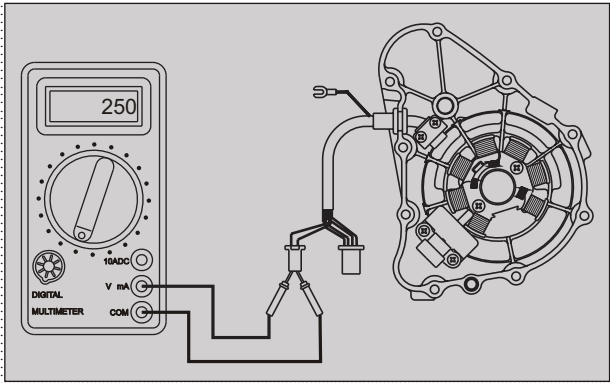

Fig. 5.9
- Connect multimeter '+ve' lead to the brown wire (Br) from pulser coil and '-ve' lead to white wire (W) from pulser coil. (Fig. 5.9) Measure the resistance. If resistance is not within the specified limit, replace pulser coil with a new one.